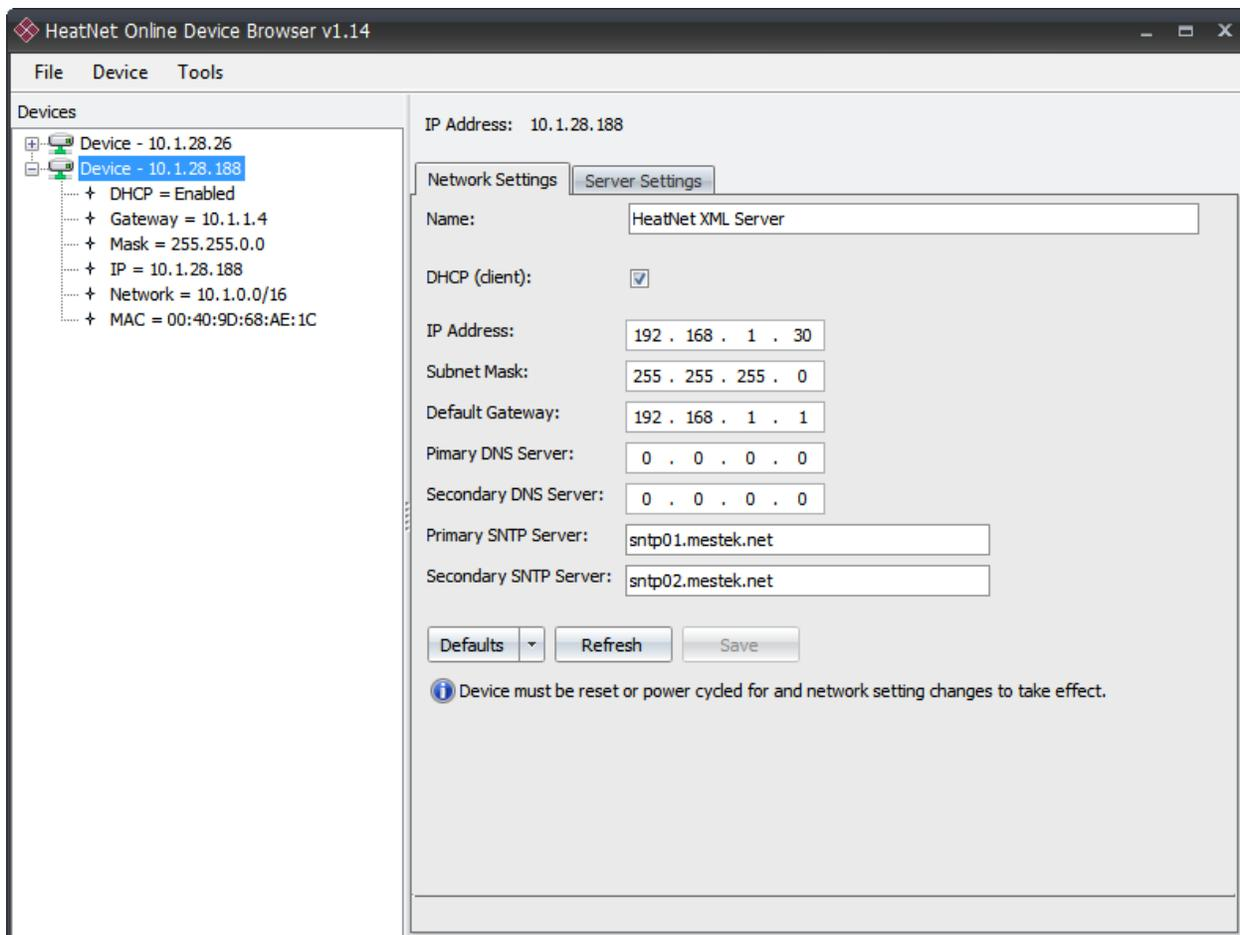

Figure 3 - HeatNet Online Browser
5) Start the HeatNet Online Browser. The device will appear in the **Devices** list on the left side of the screen (see Figure 3). Click the device to select it and the device settings will be displayed on the right side of the screen.